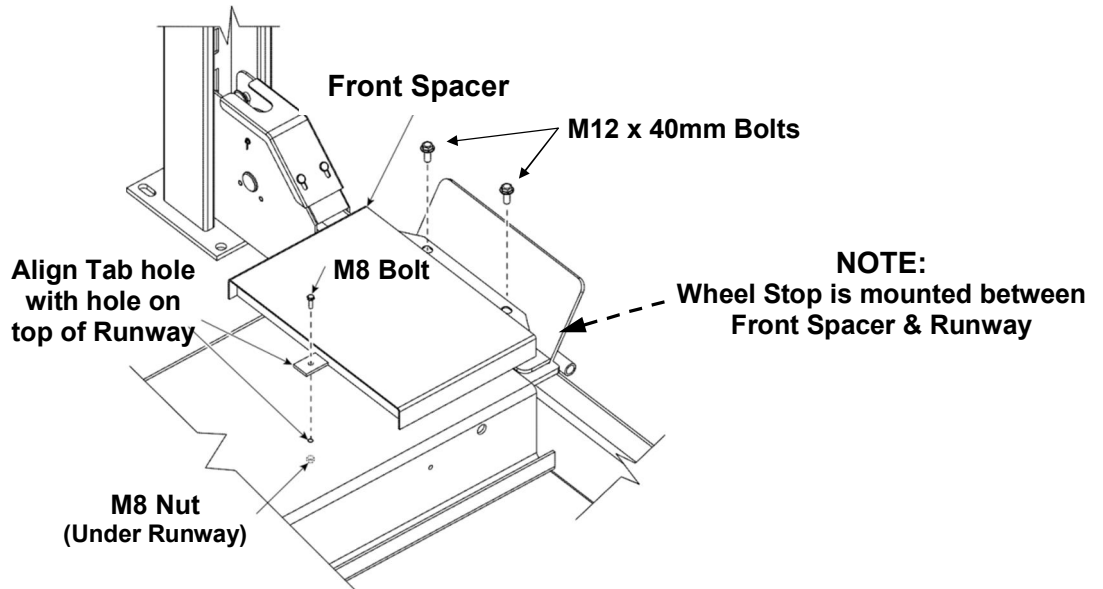

Fig. 2
- 2) Position the Front Spacer (#2) on Runway, so the bolt holes align with the Wheel Stop holes and the center hole in Runway - **Fig. 2**.
- 3) Secure back of Front Spacer to Runway using M8 Bolt & Nut, while also securing the front using M12 x 40mm Bolts - **Fig. 2**. **NOTE: Alignment Wheel Stop is mounted between Front Spacer & Runway.**
NOTE: Use 'Quick Disconnect' Air Inlet Fitting used from FP14KC-X Hardware for FLR 'Inlet' Port, Fig. 2.